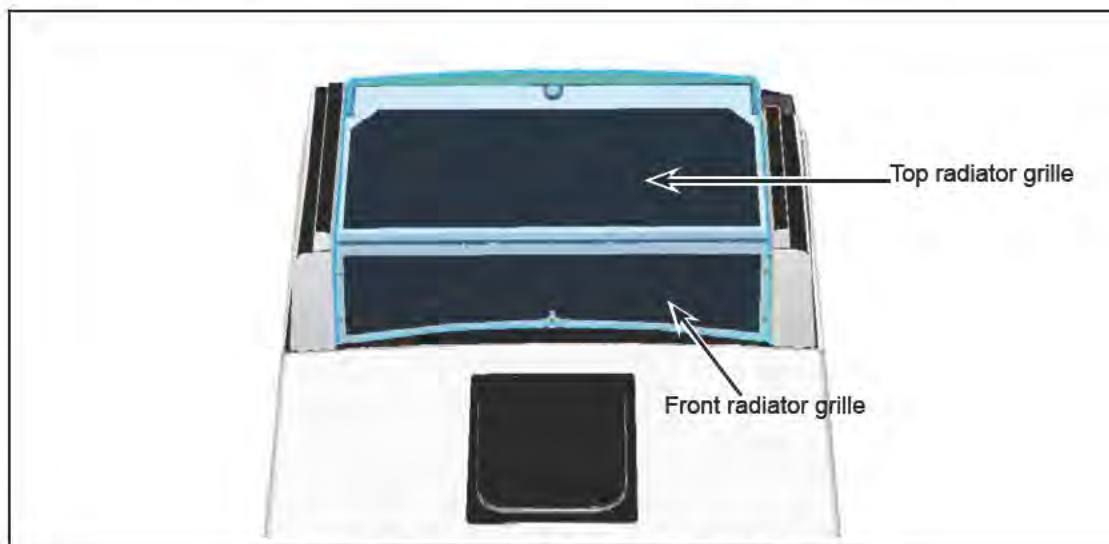

Figure 2 - Rear and Top Radiator Grilles to Remove
- 1.3. From the top of the vehicle remove the front radiator grille. Retain the grille and hardware. See Figure 2.
- 1.4. Open the rear radiator access door and remove the top radiator grille. Retain the grille and hardware. See Figure 2.